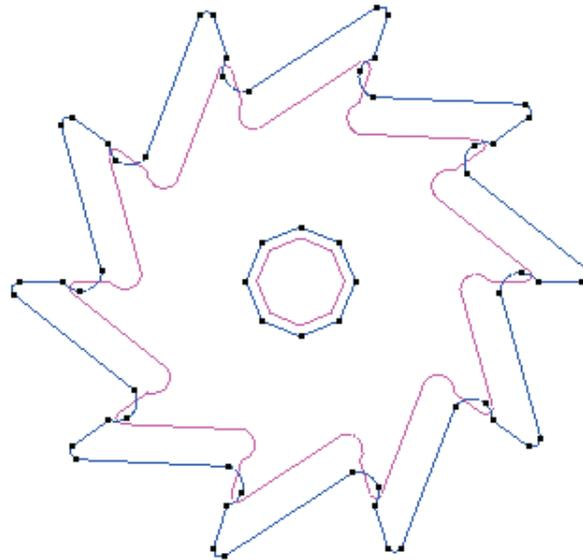

Figure 20. The model part with the hole in it
- We get the result as shown in figure 20. As we only need the boundary we should remove the associated surface. Select the option **Geometry->Delete->Surfaces** and then select